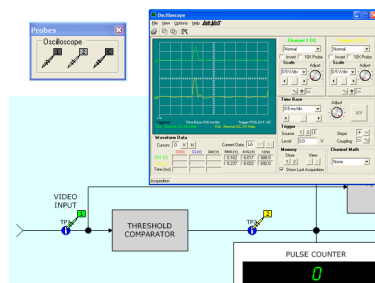

Figure 7. Real signals can be observed on the built-in oscilloscope by connecting virtual probes to test points in the on-screen block diagrams.
- Connect virtual probes to test points in the aforementioned block diagrams to observe real signals using the built-in oscilloscope (see Figure 7).